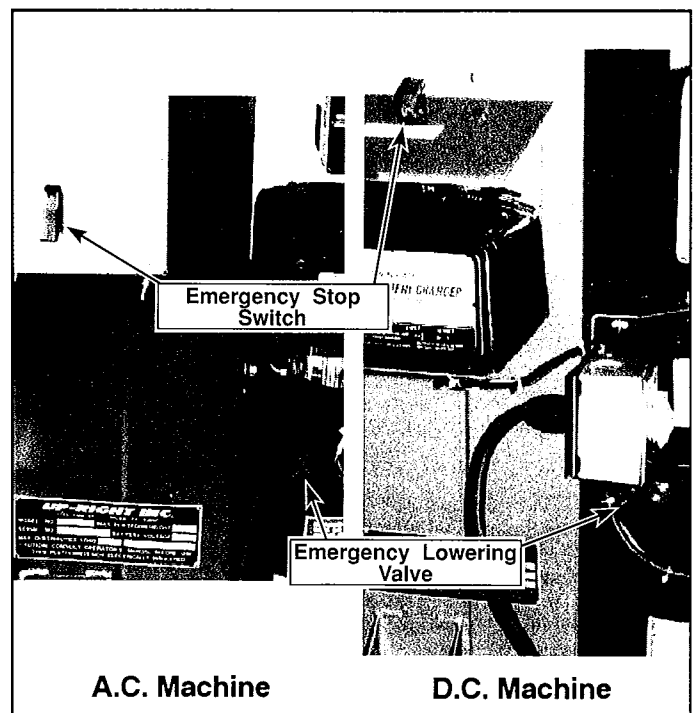

Figure 3: Base Controls
5. Turn ON Lower Emergency Stop Switch located on the left side of the mast (Figure 3). Open switch guard and push switch toward guard. In the event of an emergency, push the switch guard to stop the unit.
Ask a person on the ground to open the Emergency Lowering Valve to lower the platform. This valve is located on the Power Unit on the left side of the mast (Figure 3).